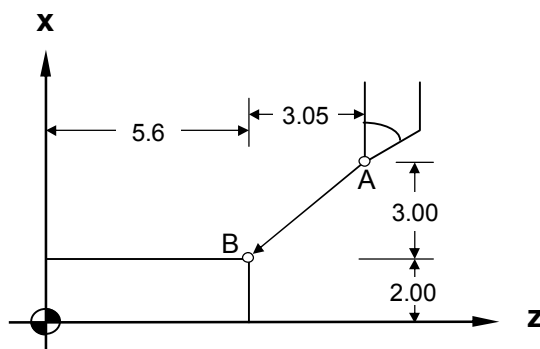

Fig. 3-2 G00 Programming Example
**Example**—Fig 3-2, A point moves to B point rapidly.
Tool moves to X4.00, Z5.60 rapidly. Since both X and Z axes are repositioning, the tool moves according to the lower feed-rate set in the parameter Highest Feed-rate. Ex: Fig. 3-2 assuming that the Highest Feed-rate is